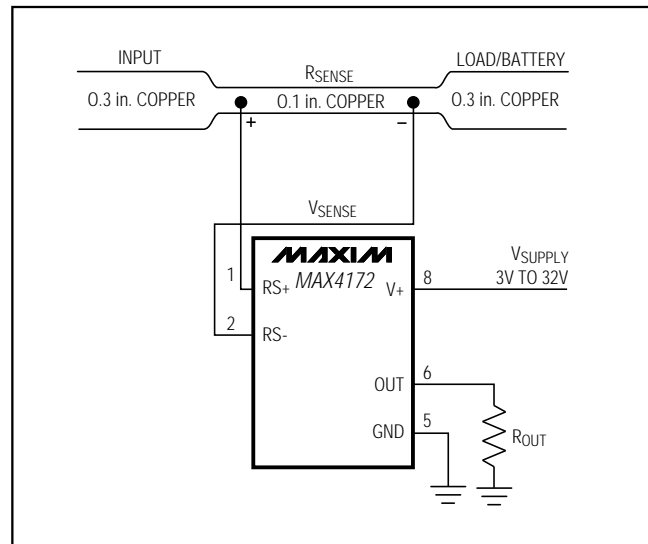

Figure 2. MAX4172 Connections Showing Use of PC Board
- **Cost:** If the cost of R_{SENSE} is an issue, you might want to use an alternative solution, as shown in Figure 2. This solution uses the PC board traces to create a sense resistor. Because of the inaccuracies of the copper resistor, the full-scale current value must be adjusted with a potentiometer. Also, copper's resistance temperature coefficient is fairly high (approximately 0.4%/°C).
In Figure 2, assume that the load current to be measured is 10A, and that you have determined a 0.3-inch-wide, 2-ounce copper to be appropriate. The resistivity of 0.1-inch-wide, 2-ounce (70 μ m thickness) copper is 30m Ω /ft. For 10A, you might want $R_{SENSE} = 5\text{m}\Omega$ for a 50mV drop at full scale. This resistor requires about 2 inches of 0.1-inch-wide copper trace.